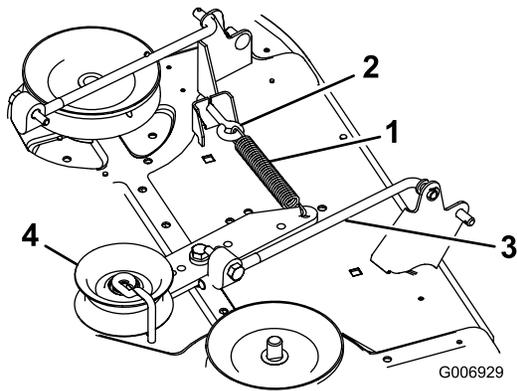

Figure 50
- Unhook the spring on the idler pulley arm from the bracket on the cutter deck (Figure 50).